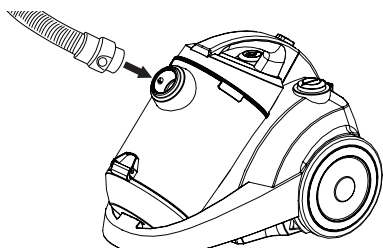

Figure 2
1. Click the hose connector into the hose opening on the motor unit. To remove the hose, press on the two release buttons on the side of the connector and pull the connector from the opening; see Figure 2.